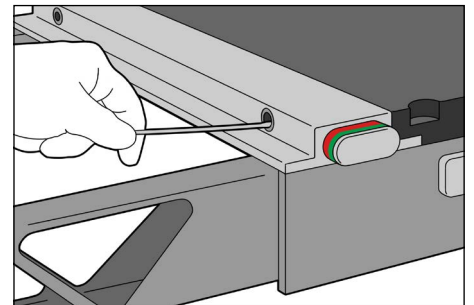

Fig. 3
3. Use dry cotton swab to clean out the inside of the receiving holes. (Fig. 3).
5. Use dry cotton swab to wipe out loose lint and debris. (Fig. 3).